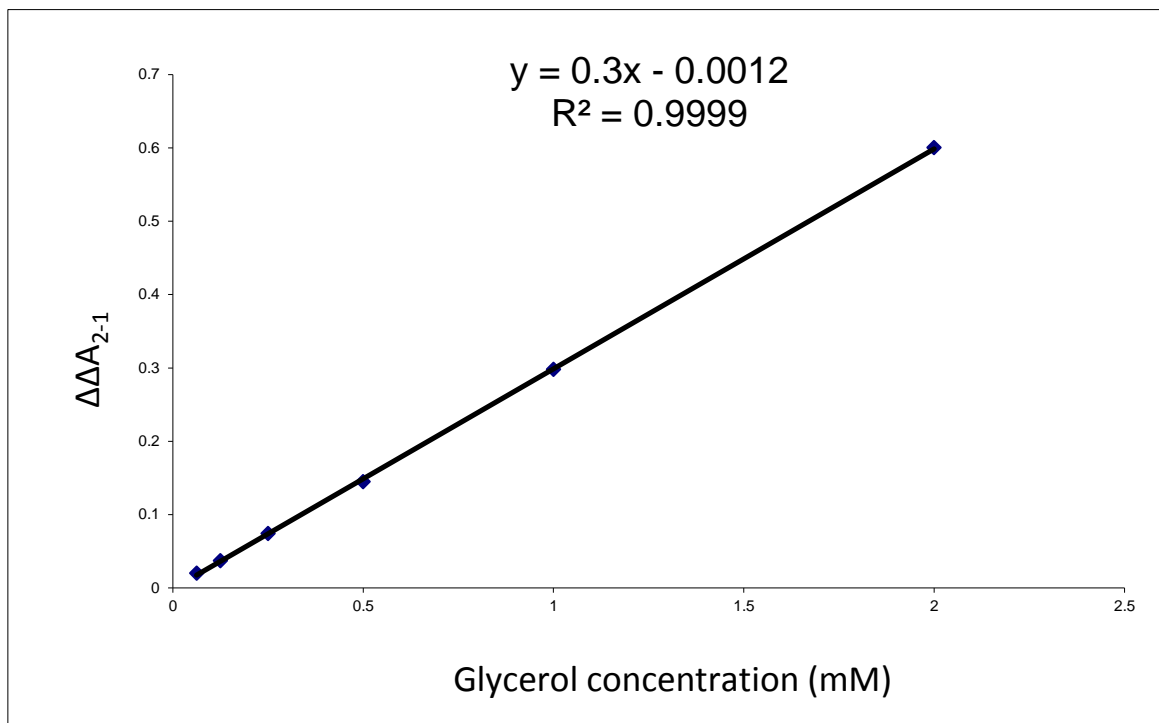

Figure1. A typical glycerol standard curve measured by ScienCell™ Glycerol Assay kit
Data from Glycerol Assay kit measuring glycerol solutions with concentrations ranging from 0.0625 to 2 mM show a linear relationship between OD_{540nm} and glycerol concentration (Figure 1). Linear detection range is 10 µM to 2 mM in 96-well plate assay.
3. Based on the calibrated $\Delta\Delta A_{2-1}$ of the glycerol standard, make a standard curve by plotting $\Delta\Delta A_{2-1}$ as a function of glycerol concentration (See Figure 1 for a typical standard curve). Determine the equation and R^2 value of the trend line.